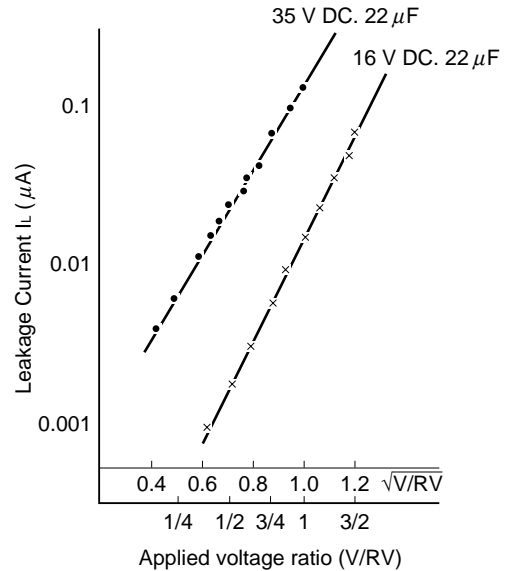

Figure 15 Voltage Characteristics of Leakage Current
Figure 15 shows an example of the voltage characteristics of leakage current I_L . According to this figure, a relation of “ $\log I_L$ is proportional to $V^{0.5}$ ” is established over a wide range of the applied voltage, and the tilting angles of the two curves in the figure almost match when the horizontal axis indicates a ratio of the applied voltage to the rated voltage (RV). This relation is explained by a conductive mechanism of Schottky type.